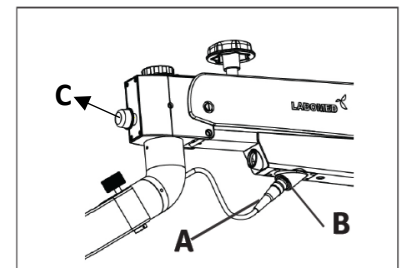

Fig. 42a
2. Set Potentiometer knob C (Fig 42a) at mid range.
3. Connect 4 Pin connector A to B to power up the LED System of Microscope. Refer Fig. 42a.